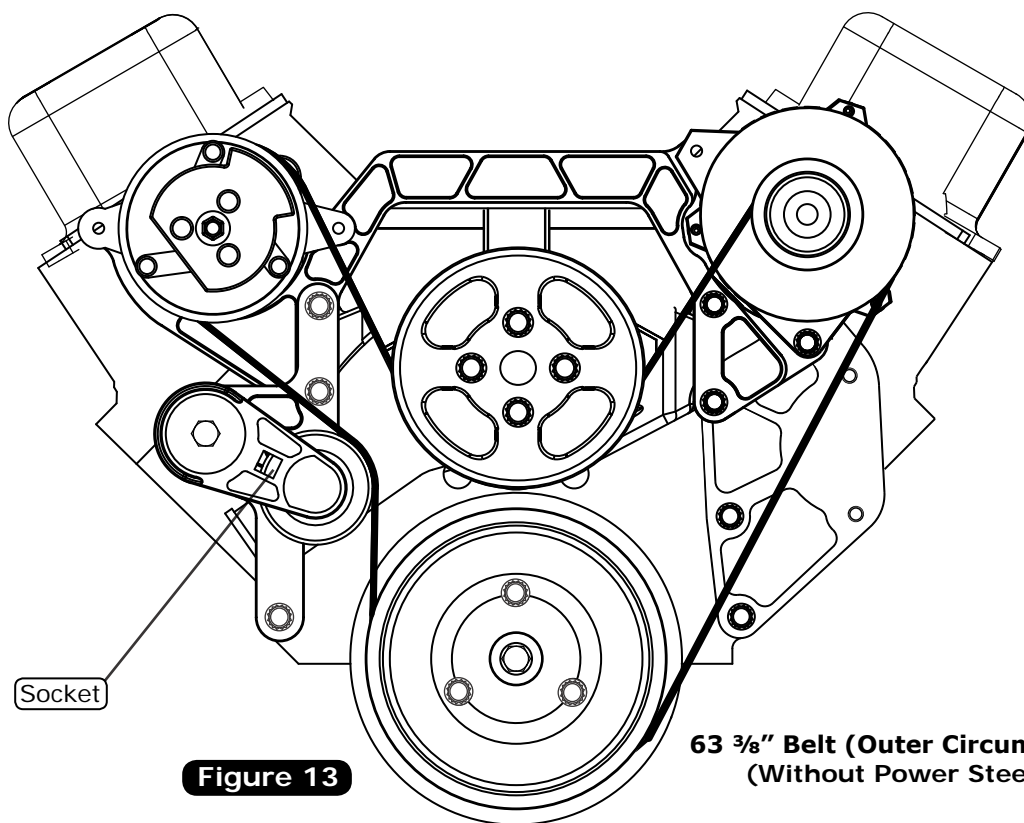

Figure 13
1. Insert a 1/2"-drive ratchet or breaker bar into the socket on the tensioner, and rotate it clockwise to the tensioner stop. Route the belt around the crankshaft pulley and alternator, and over the compressor. Finally, pull the belt down and slide it under the water pump pulley (See Figure 13, below).